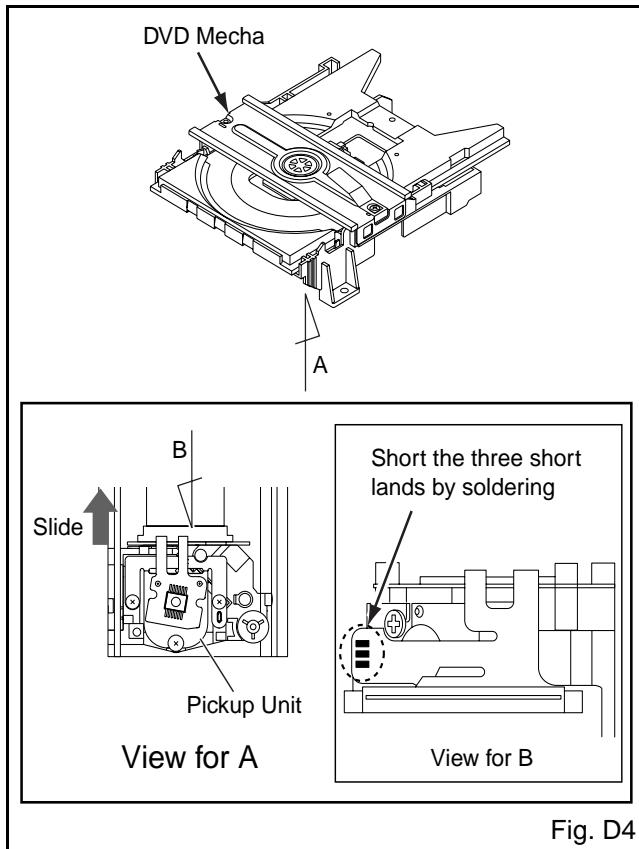

Fig. D4
- 2-2. Slide out the pickup unit as shown in Fig. D4.
- 2-3. Short the three short lands of FPC cable with solder before removing the FFC cable (CN201) from it. If you disconnect the FFC cable (CN201), the laser diode of pickup will be destroyed. (Fig. D4)
CAUTION 3: When reassembling, confirm the FFC cable (CN201) is connected completely. Then remove the solder from the three short lands of FPC cable. (Fig. D4)